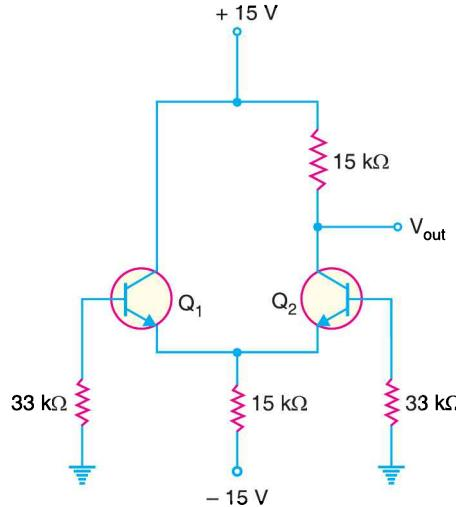

Fig. 25.17
**Example 25.7.** In Fig. 25.17, the transistors are identical with  $\beta_{dc} = 100$ . Find the output voltage.
**Example 25.8.** In Fig. 25.17, the transistors are identical except for  $\beta_{dc}$ . The left transistor has  $\beta_{dc} = 90$  and the right transistor has  $\beta_{dc} = 110$ . Find (i) base currents (ii) base voltages. Assume  $V_{BE} = 0V$ .